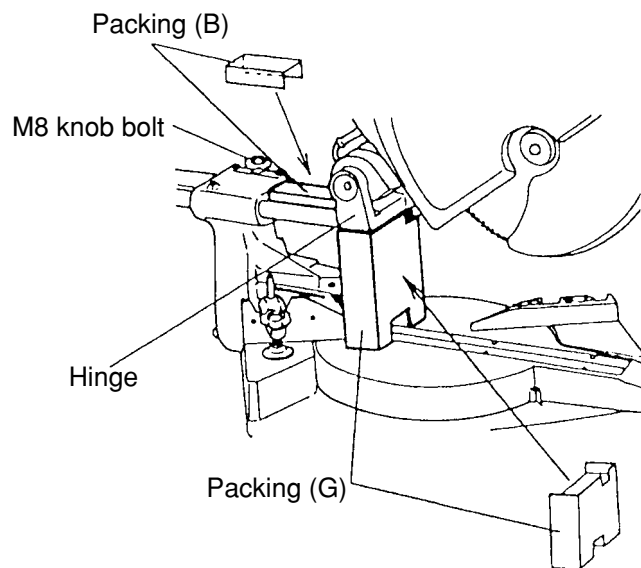

Fig. 52
Push the head back and secure the slide in position with packing (B) inserted by means of the 8 mm knob bolt. Then place the packing (G) under the hinge. (See Fig. 52.)